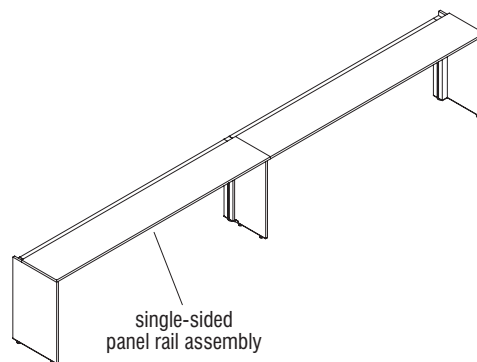

Figure 11
- Panel rail assemblies may be configured for single-sided or dual-sided configurations (Figures 11 & 12).